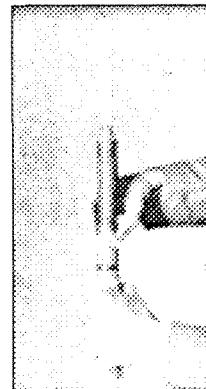

Fig. 4.
2. Screw spring and refill firmly together by hand, *Fig. 4*. DO NOT USE A WRENCH.